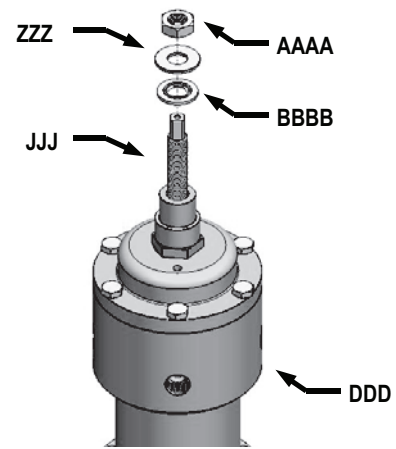

Figure 50
Step 60: For either the VRP-600-SB-PID (Figure 50) or VRP-1000/1500-SB-PID (Figure 51), place the 7/16 SS Thread Seal (BBBB) and 7/16 SS Flat Washer (ZZZ) onto the Adjusting Screw (JJJ). After all the necessary adjustments on the PID are made, thread the 7/16 SS Jam Nut (AAAA) onto the Screw (JJJ), but be careful not to overtighten it. **OVERTIGHTENING THE JAM NUT (AAAA) MAY CAUSE DAMAGE TO THE ADJUSTING SCREW (JJJ).**